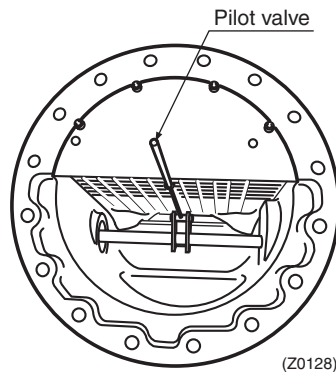

Fig. 4-2-2 Pilot valve
- Be sure to mount guide bolts when removing the discharge end cover. Furthermore, since continuous capacity control units have a pilot valve (as shown in Fig. 4-2-2) inside, remove the discharge end cover with care paid not to bend this valve.